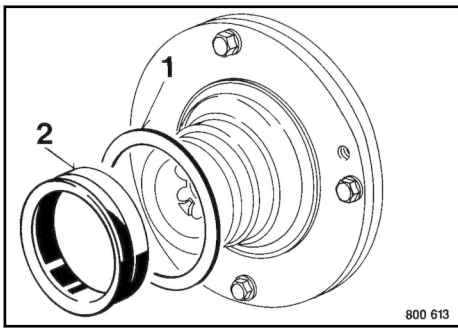

Fig. 225
6. Take shim 1 ↪ Fig. 225 and V-ring (2) off the bearing flange.